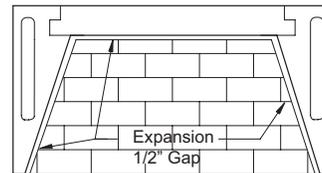

FIGURE 76
3. Start the firebrick at the front edge of the floor of the Isokern firebox, proceeding inward toward the back. Let the floor brick gap approximately 1/2" off the back wall and side walls. This air space allows heat expansion of the firebrick and is to be left empty of mortar. (Figure 76)